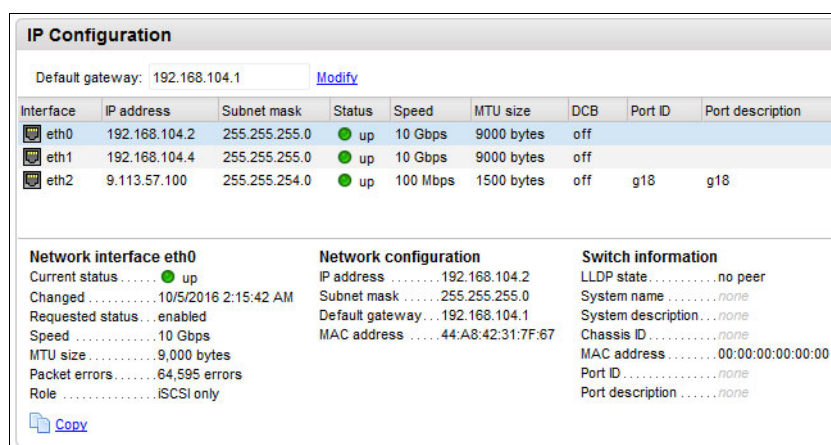

Figure 14-6 Window to view the changed IP addresses of the Dell system
5. Click the interface name and validate the changed settings in the detailed view, as shown in Figure 14-6.